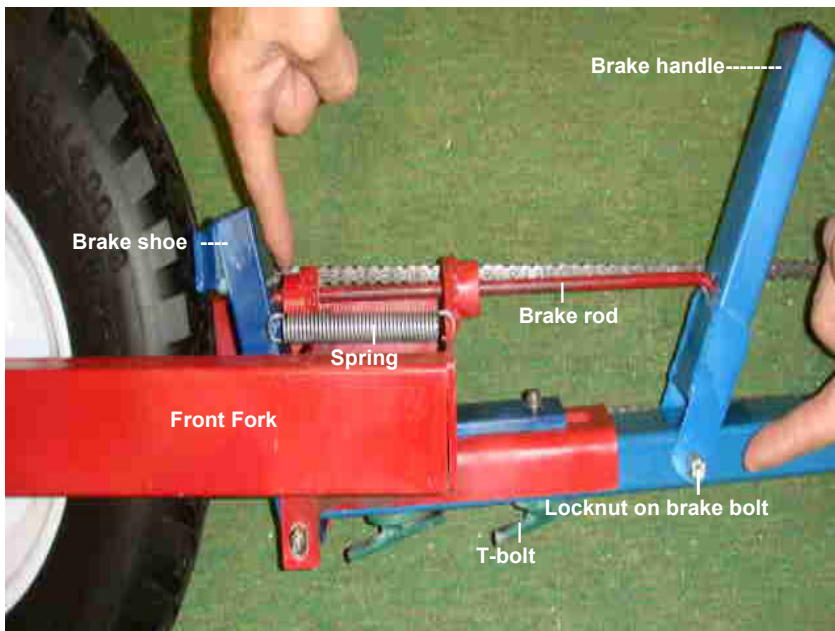

Figure 1 Position of brake handle and rod without swivel pin
1. Remove the locknut, brake bolt, brake handle and brake rod (parts shown in Figure 1).
4. Push the brake bolt through the brake handle and pedal column holes. Attach the locknut and tighten. Brake handle should still move up and down freely. (See Figure 2, using Figure 1 as a guide to the installation of the brake handle)